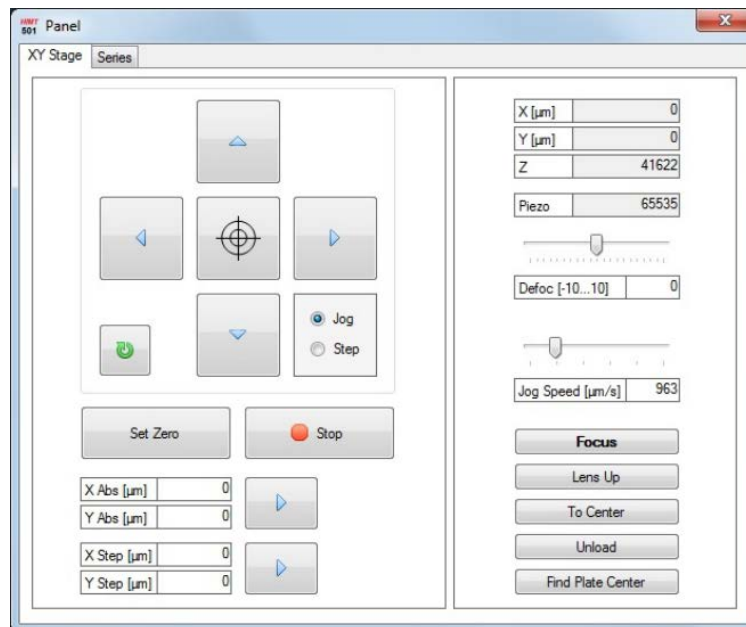

Figure 22: XY stage control panel.
4. The Control Panel opens below the Alignment panel and shows the XY Stage control panel. Use the buttons on the XY Stage control to move the (first) alignment mark into the field of view (Figure 22).